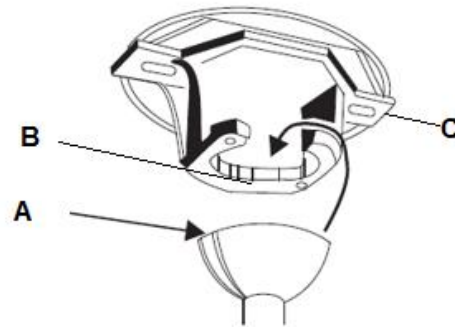

Fig. 9
Lift the fan assembly onto the mounting bracket. Ensure the key slot (A) of the hanger ball is positioned on the key pin (B) of the mounting bracket (C) to prevent the fan from rotating when in operation. (Fig.9)